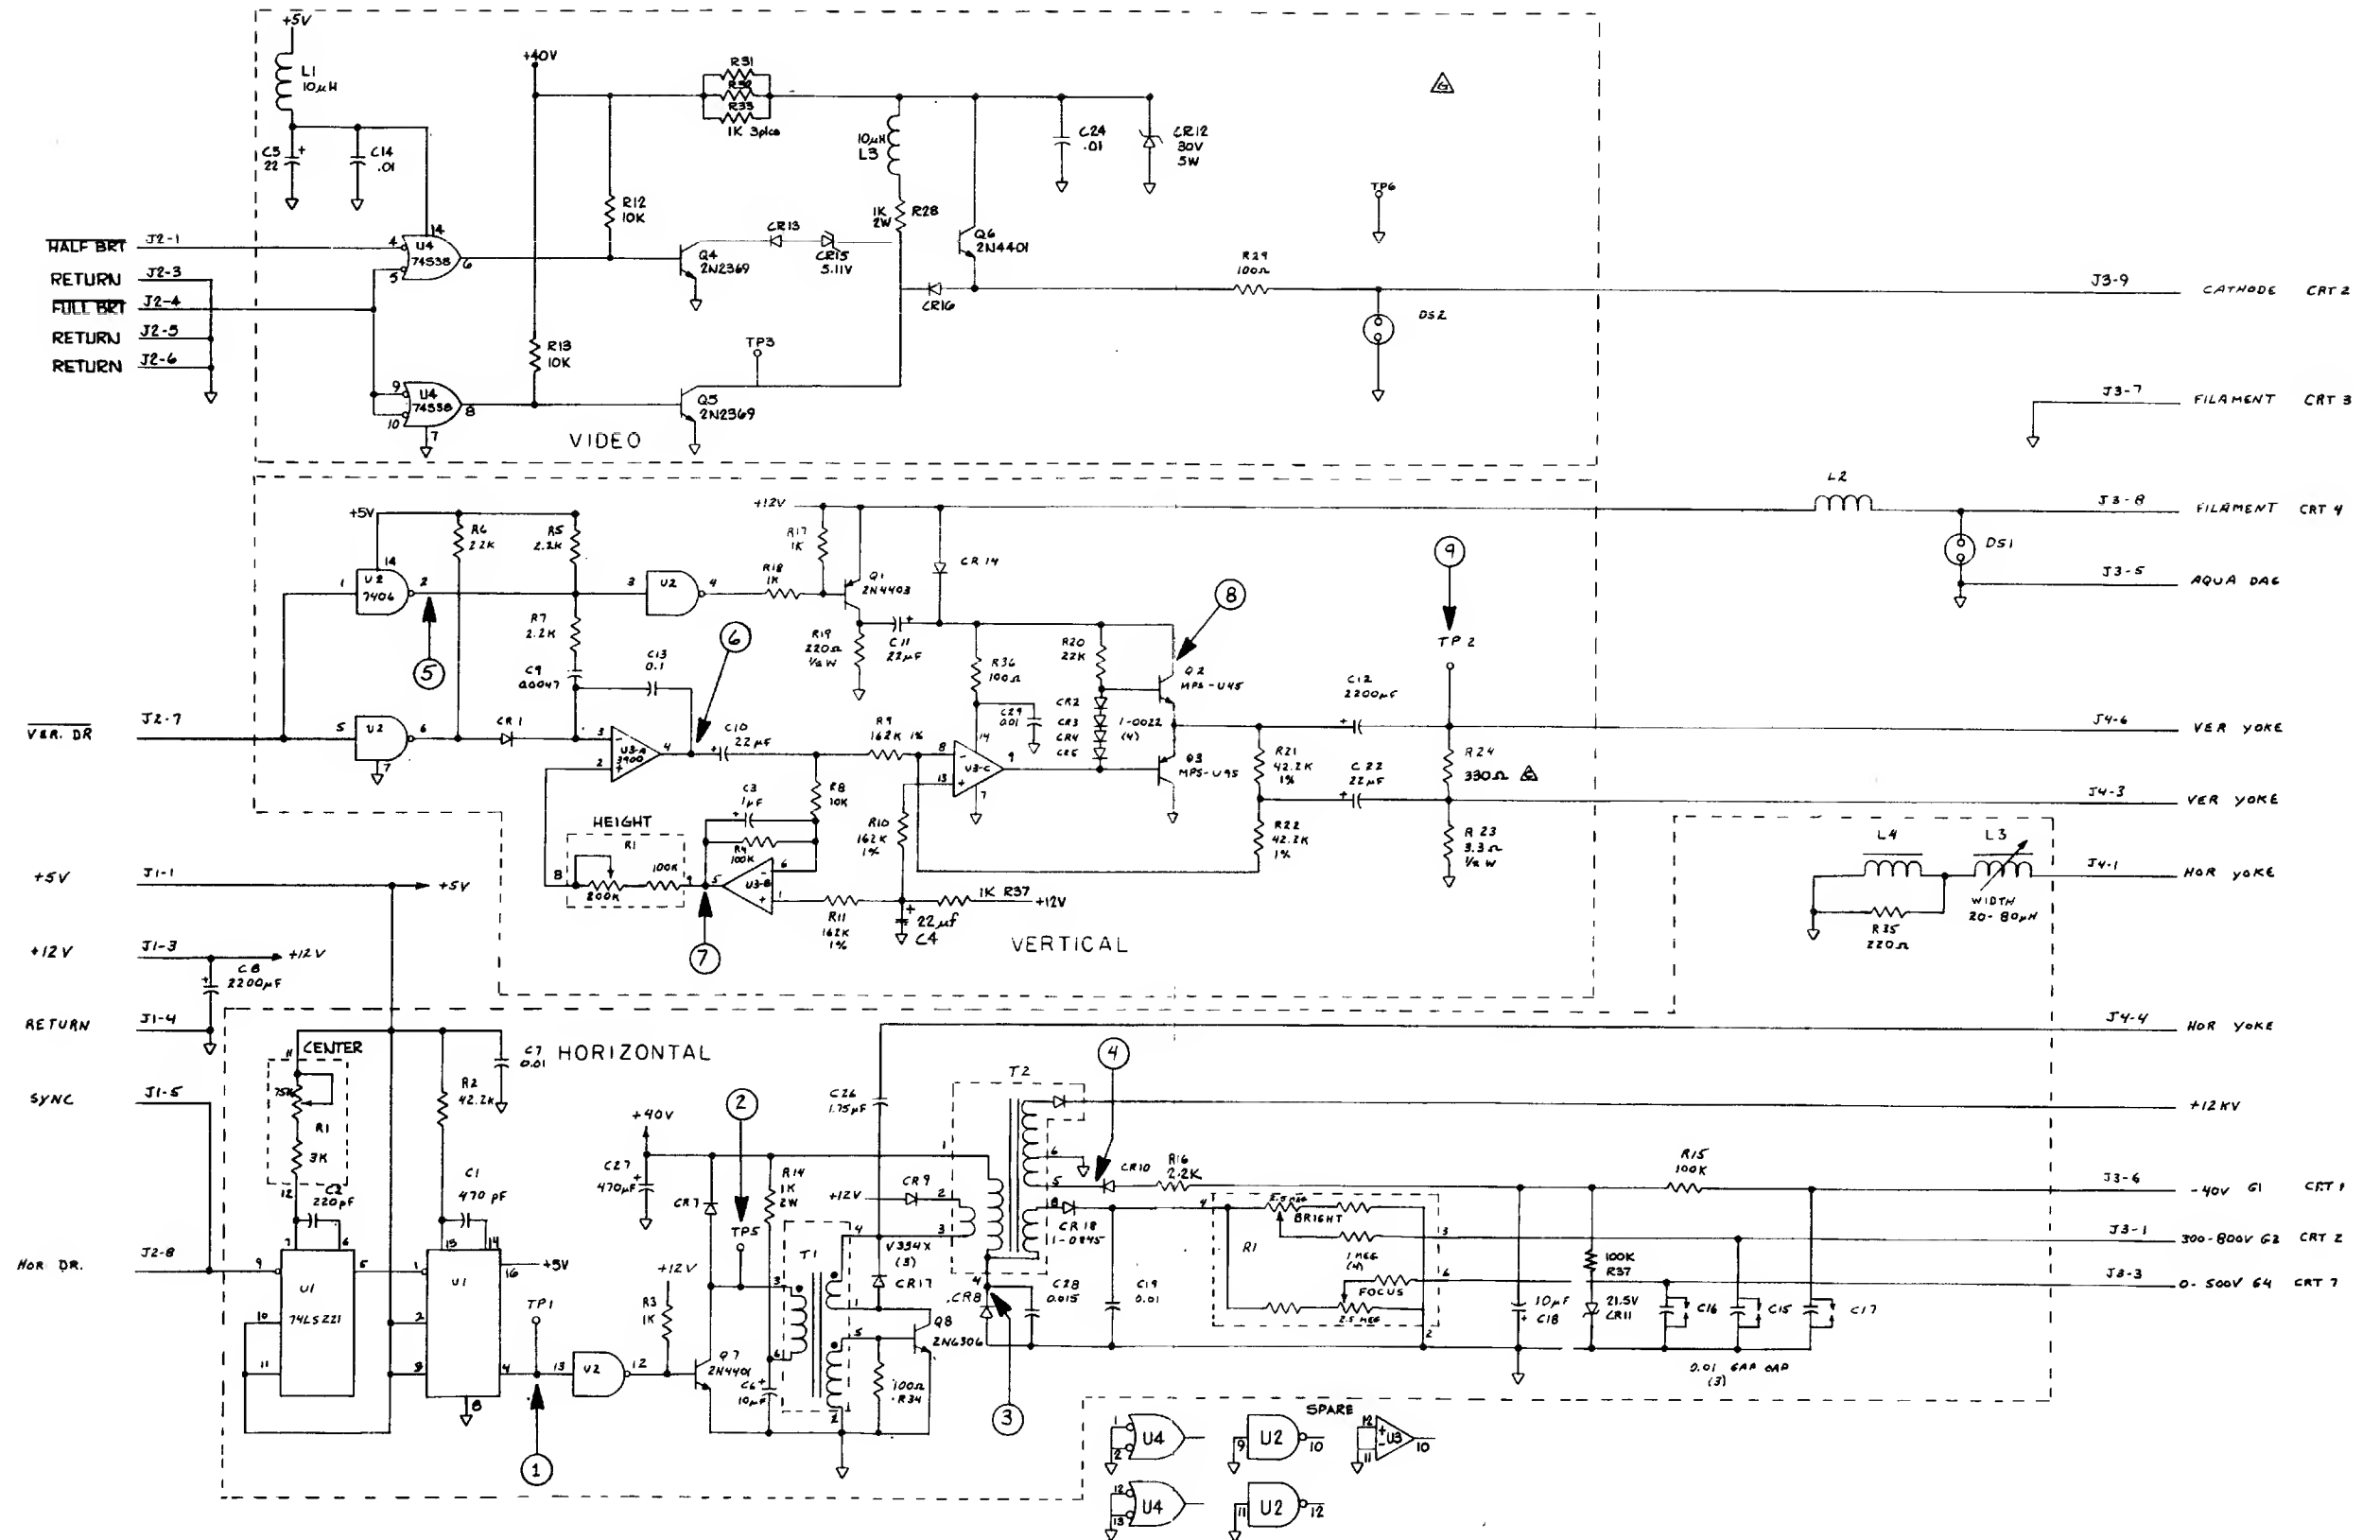
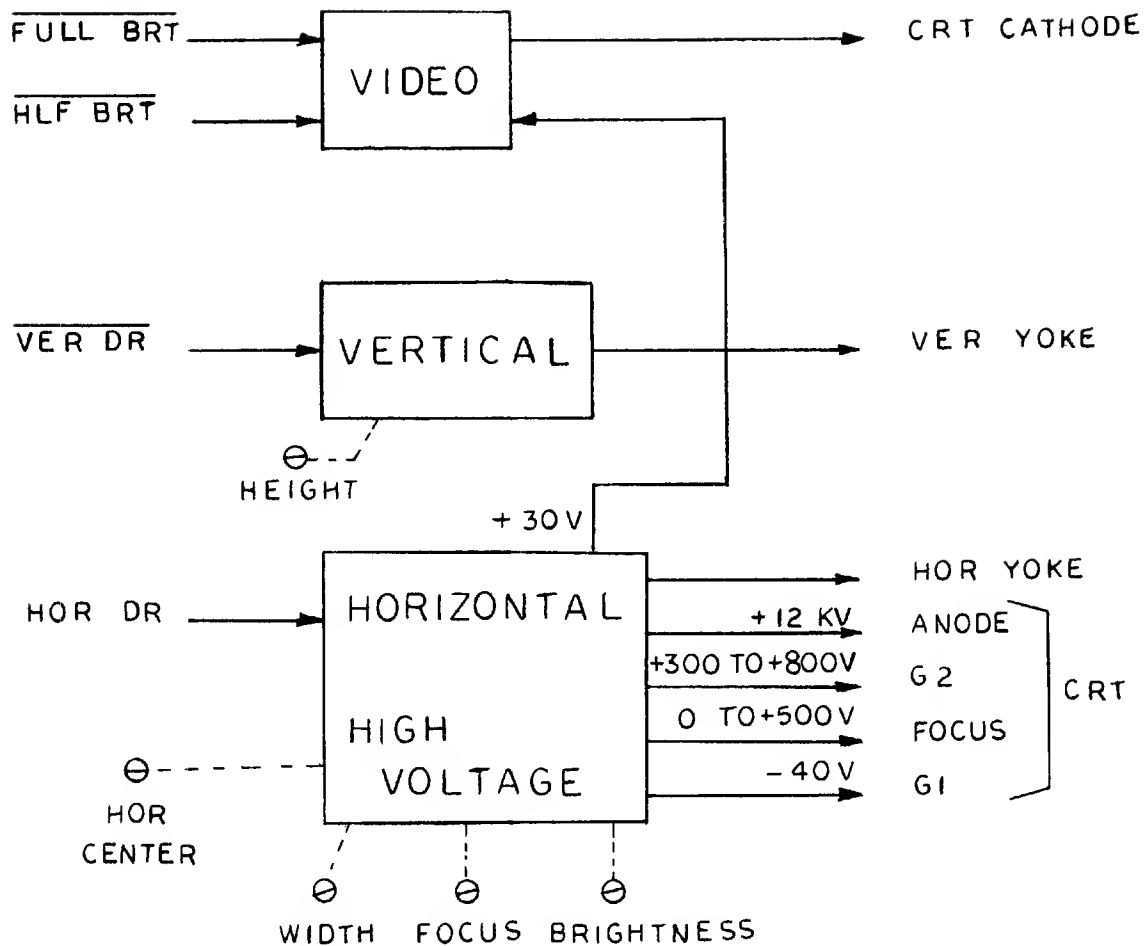

Figure 2
Figure 3
- 3.0 FUNCTIONAL DESCRIPTION. Refer to the block diagram (figure 1), schematic diagram (figure 2), timing diagram (figure 3), the component location diagram (figure 4), and parts list (02620-60002) located in the appendix.